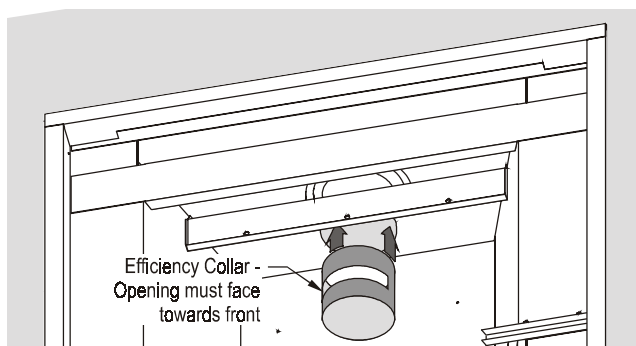

Figure 18. Installing the efficiency collar.
8. Install the efficiency collar as shown in figure 18. Use a long screwdriver to hold the collar out of the way while you install the Heating Insert.